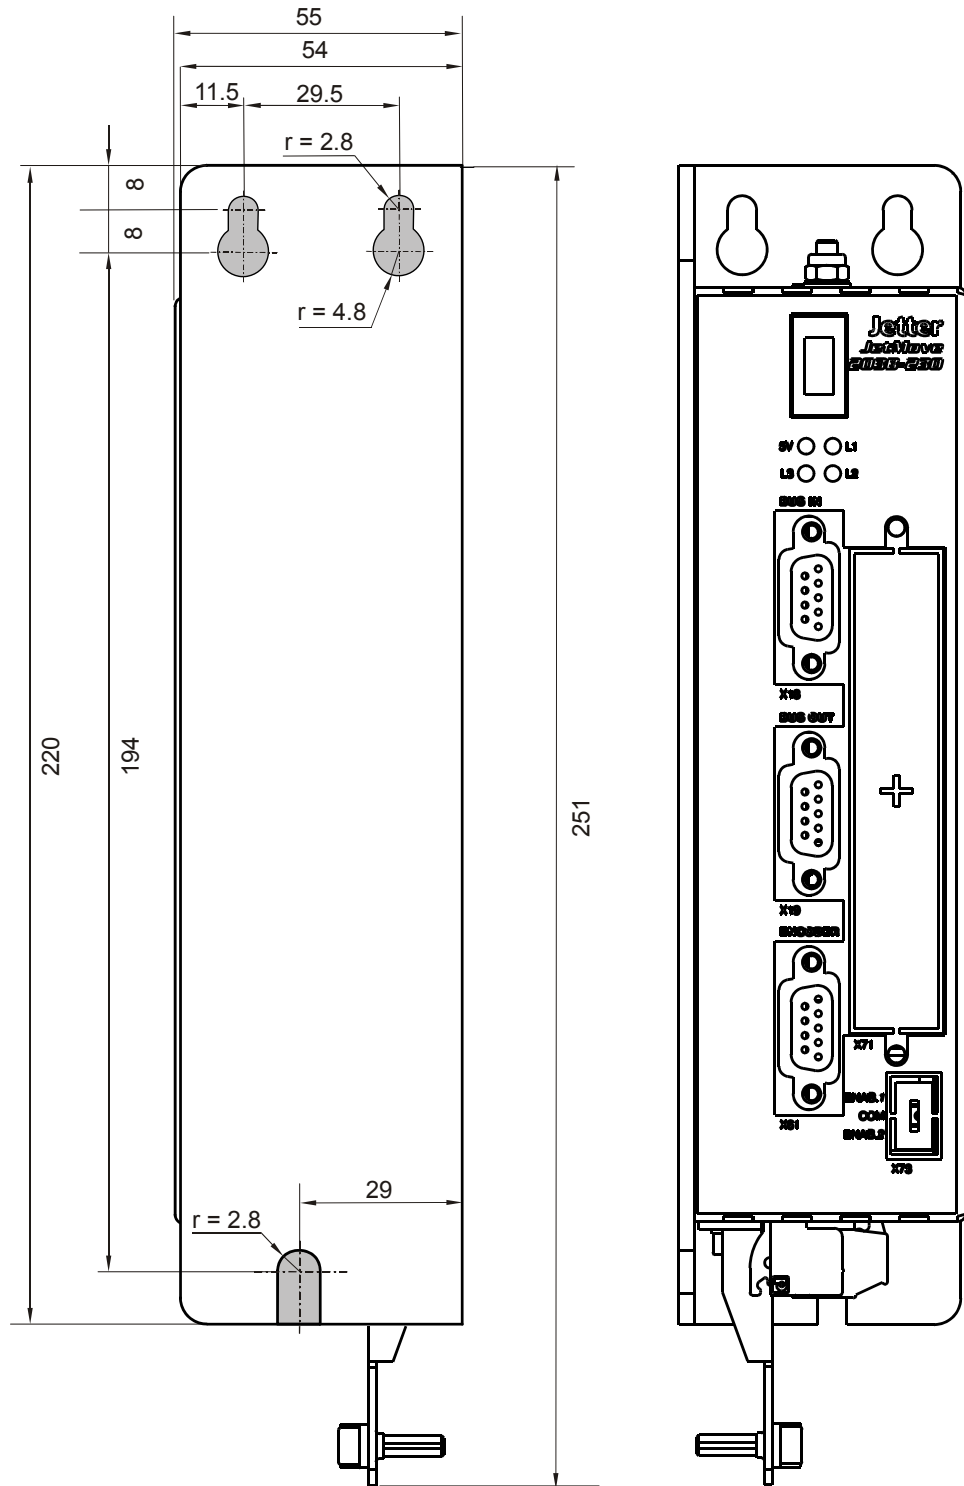

Fig.: 4: Rear and front view of the JetMove 203B-230 enclosure with mounting holes
- Mounting screws, 3 pcs.; refer to fig. 4, page 25.
-  The only possible mounting position is vertical - see fig. 4, page 25.
-  Mark on the panel two positions for the fastening screw threads of the JetMove 203B-230 (see fig. 4, page 25).
| Mounting position | Vertical (refer to Fig. 4 page 25) For sufficient air flow there has to be a clearance of 100 mm above and below the device. | |